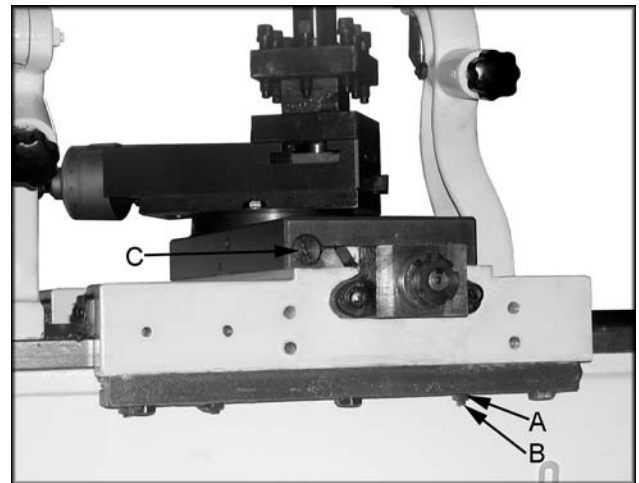

Fig. 18
1. Loosen four hex nuts (A, Fig. 18) found on the bottom rear of the cross slide.
2. Turn each of the four set screws (B, Fig.18) equally with a hex wrench until a slight resistance is felt. Do not over tighten.
1. Loosen the rear gib screw (C, Fig. 18) approximately one turn.